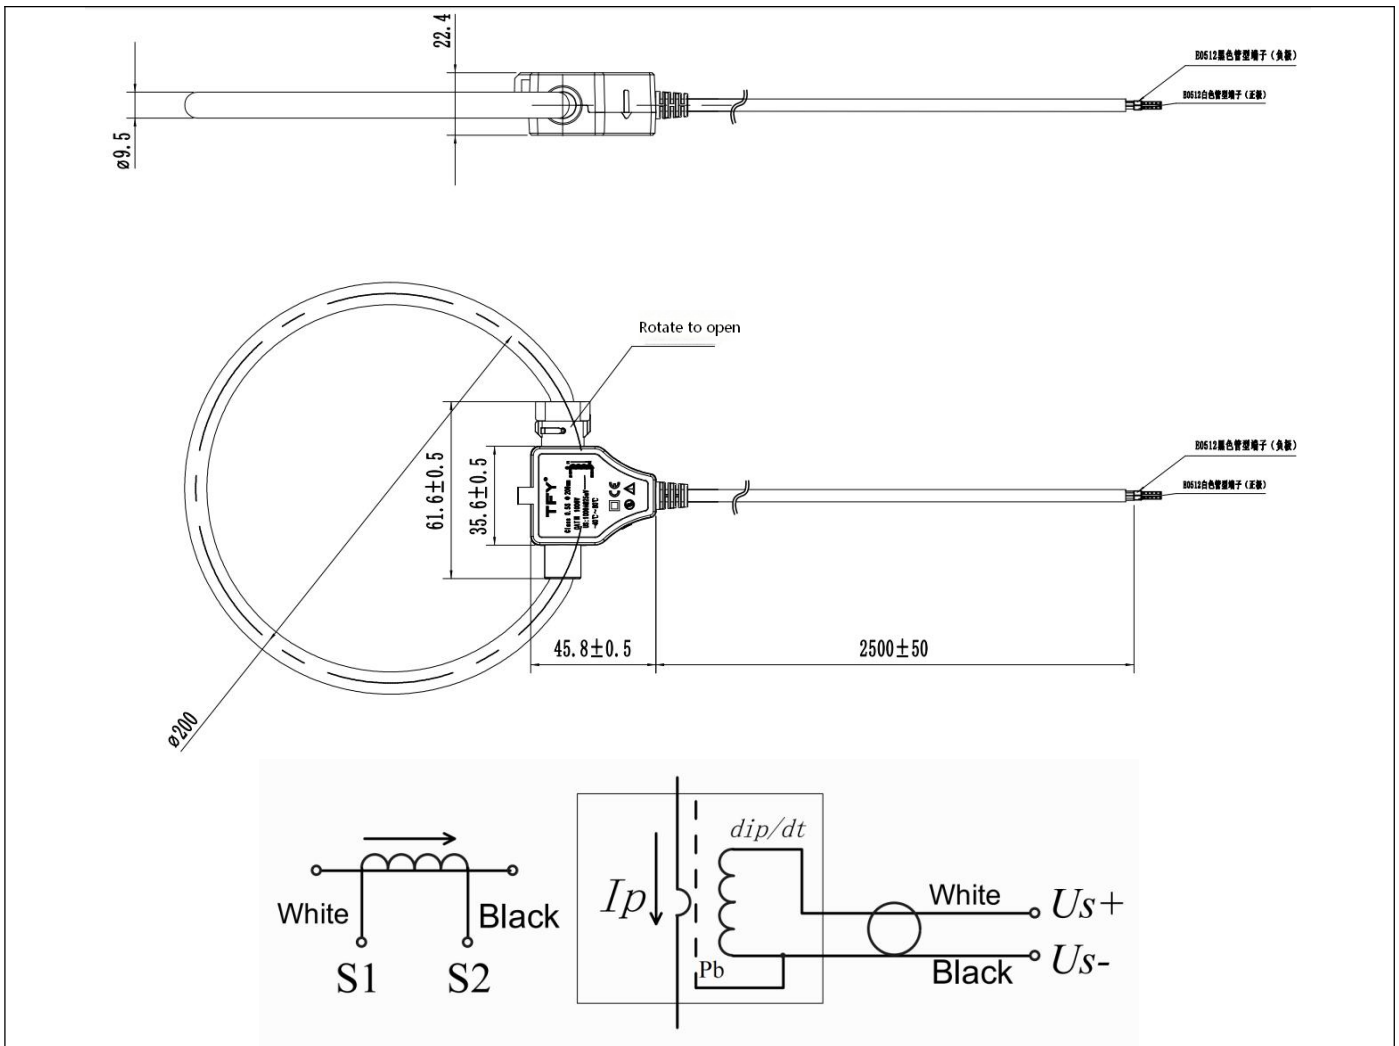

Figure 4
- Signal line input length / Integrator signal output line length-----See Figure 4
- Output terminal-----See Figure 4